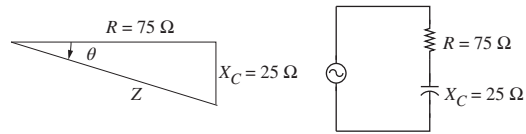

Figure P3.31 A series AC circuit containing R and C .
- 3-31.** The impedance triangle of a resistor (R) and a capacitor (C) connected in series in an AC circuit is shown in Fig. P3.31, where $R = 75 \Omega$ is the resistance of the resistor and $X_C = 25 \Omega$ is the capacitive reactance of the capacitor. Find the impedance Z and the phase angle θ .